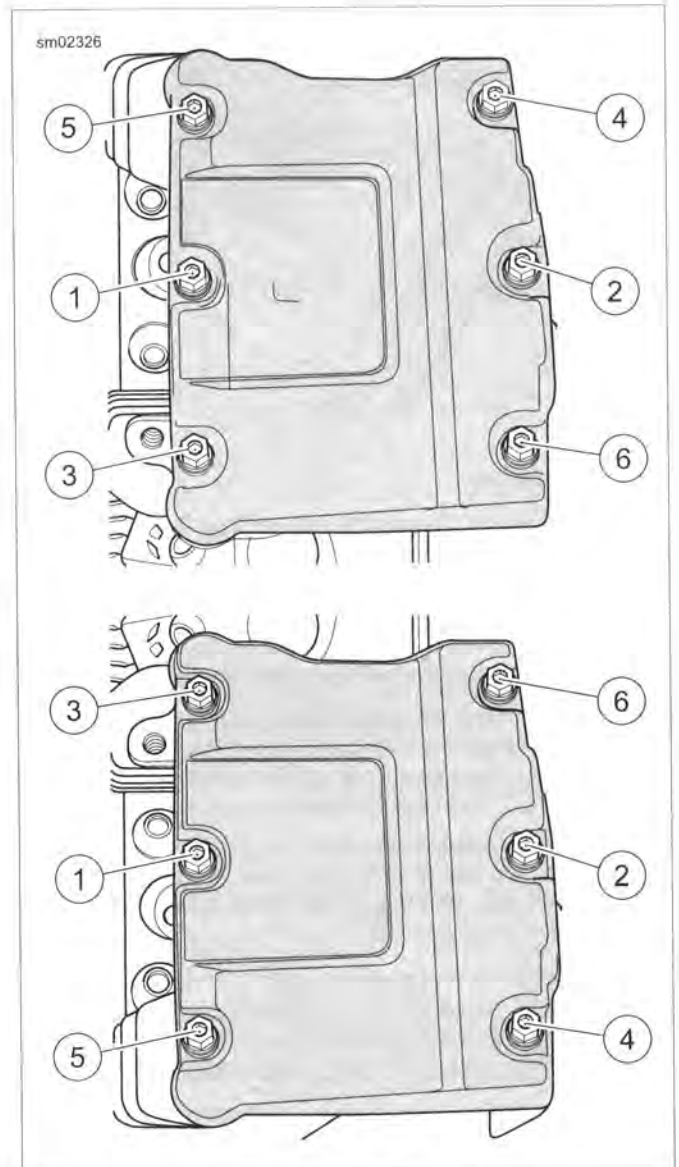

Figure 3-12. Rocker Cover Bolt Removal Sequence
2. See Figure 3-12. Following the sequence shown, loosen the six rocker cover screws. Remove the rocker cover screws.